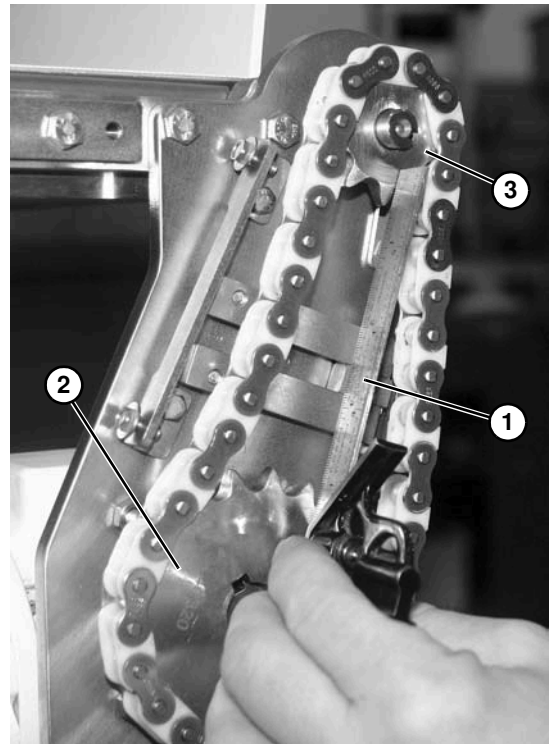

Figure 56
Using a straight edge (Figure 56, item 1), make sure drive sprocket (Figure 56, item 2) aligns with driven sprocket (Figure 56, item 3). Tighten drive and driven sprocket set screws.